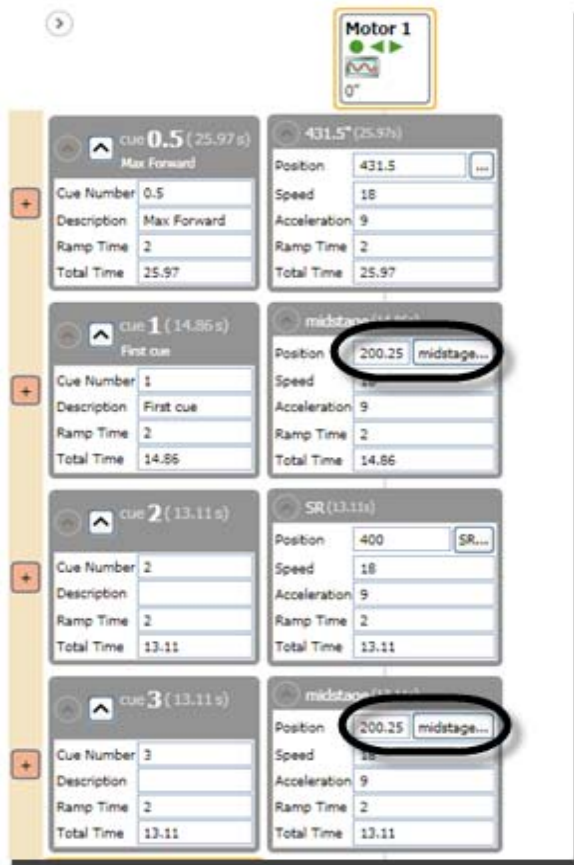

Figure 313
- The position values will update in the cues that reference the Spike you edited (Figure 313).